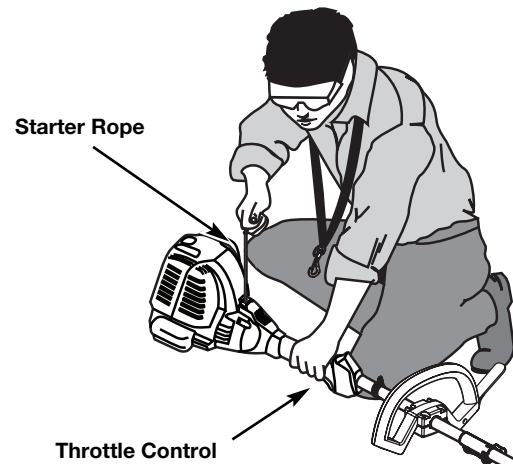

Fig. 21
WARNING: Avoid accidental starting. Make sure you are in the starting position when pulling the starter rope (Fig. 21). To avoid serious injury, the operator and unit must be in a stable position while starting. To avoid serious personal injury, ensure any Add-On being used is installed correctly and secure before starting the unit.
6. Crouch in the starting position (Fig. 21). Press the throttle lockout in and squeeze the throttle control lever. Pull the starter rope briskly 5 times.